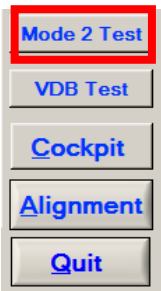

Figure 63 Mode 2 Test button
- 4) Click the “Mode 2 Test” button on the Te2uiA panel (opens the Mode 2 Bit Error Rate Testing and Transmit control window) (Figure 63)